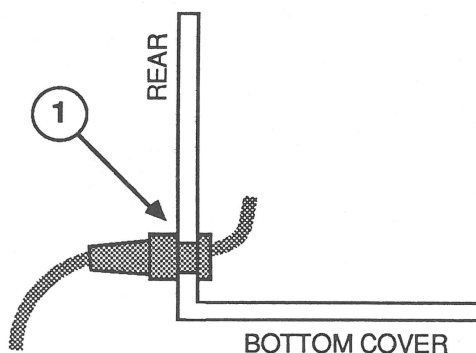

FIGURE 3
1. Place the disk drive in the bottom cover. Carefully route the cable behind the drive and out of the case. The cable grommet should be seated in the cutout in the case (see Figure 3).